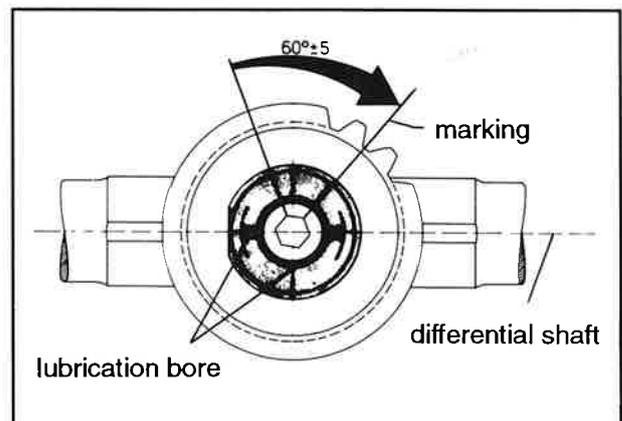

Fig. 4
- 5 Press in differential bolts with planetary wheel and floating bush (1/3) into differential shaft (3) so that lubricating bores of differential bolts are in parallel position to longitudinal axis of differential shaft, see fig. 4.